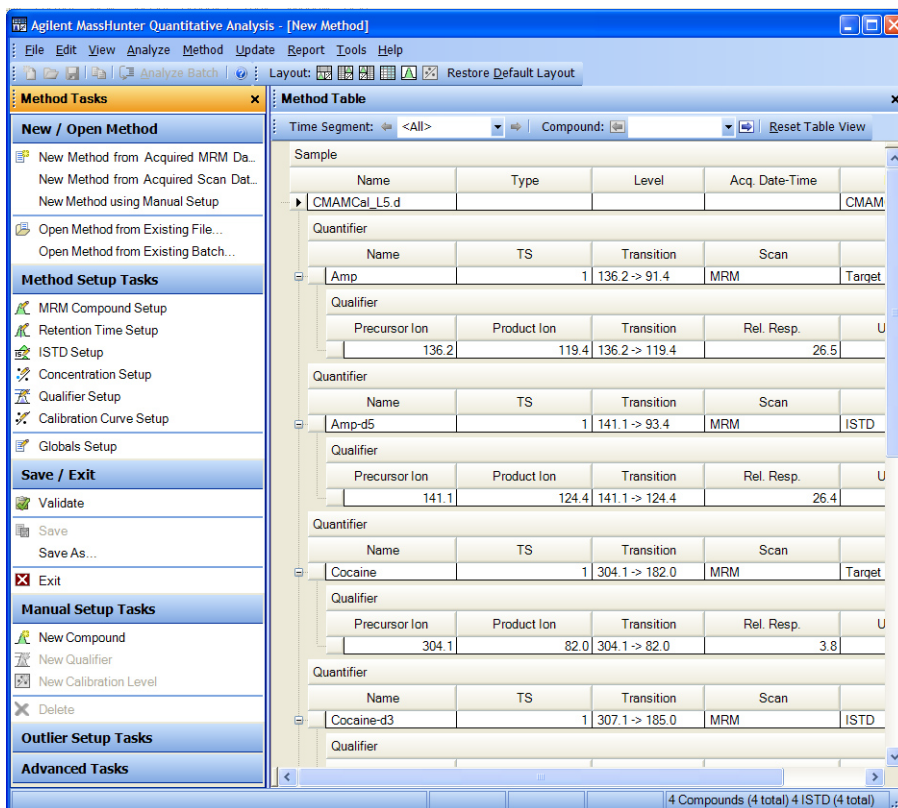

**Figure 3** Method Edit mode
The **Method Tasks** appear in the column to the left of the View, as shown in Figure 3.
- Note that Figure 3 shows the default layout for method editing.